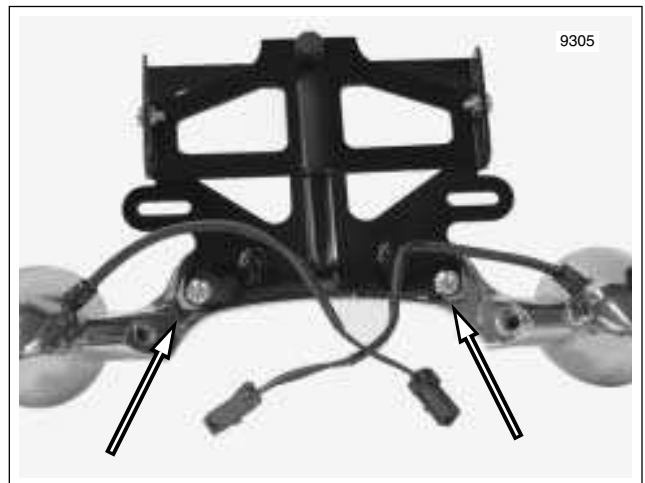

Figure 8-69. Remove License Plate Bracket
8. Remove two allen head socket screws to release license plate bracket from rear turn signal lamps bracket. See Figure 8-69.
1. Install two allen head socket screws to fasten license plate bracket to rear turn signal lamps bracket. See Figure 8-69.